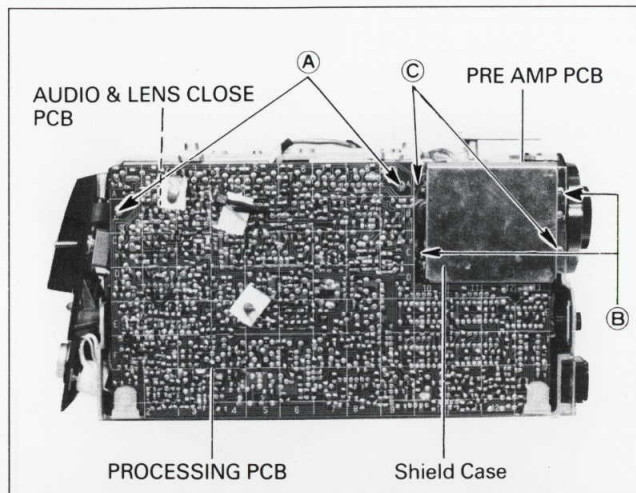

Fig. 9-7 Removal of PROCESSING PCB, PRE AMP PCB, AUDIO & LENS CLOSE PCB
- (1) **PROCESSING PCB** can be removed by removing two screws (A). (See Fig. 9-7)